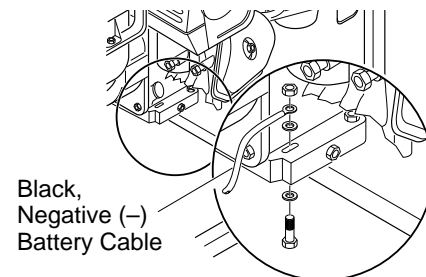

Figure 11 - Connecting Black, Negative (-) Battery Cable to Engine Block (Model MGH7000D Shown)
2. Attach the black, negative (–) battery cable to the engine block. Use the bolt, nut, and two washers provided with the battery cables. Use long mounting hole on opposite side of engine from starter solenoid. Attach cable as shown in Figure 11.